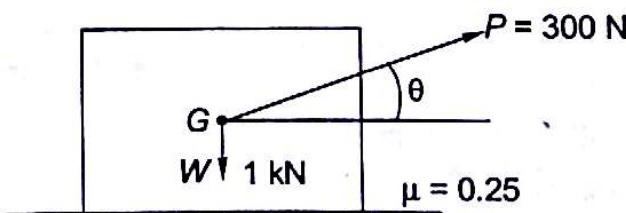

Fig. 6.23
6.5 A block weighing 1000 N rests on a horizontal plane as shown in Fig. 6.23. The coefficient of static friction between block and plane is 0.25. Over what range of angle θ , there will be no movement of the block if a force of 300 N acts on the block as shown.